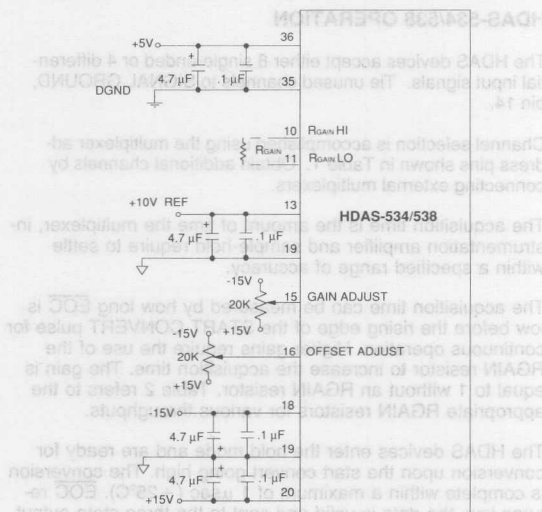

Figure 2. Typical Connection Diagram
1. Connect the converter per Figure 2 and Table 2 for the appropriate full-scale range (FSR). Apply a pulse of 150 nSec (typical) to the START CONVERT input (pin 40) at a rate of 75 KHz. This rate is chosen to reduce flicker if LED's are used on the outputs for calibration purposes.